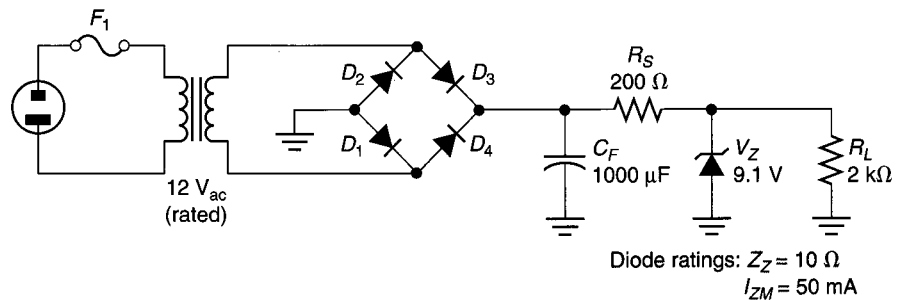

FIGURE 3.64
49. Calculate the dc output voltage and current values for the circuit shown in Figure 3.64.
50. Calculate the output ripple voltage for the circuit shown in Figure 3.64.
54. The circuit in Figure 3.64 has an output that equals 0 Vdc. The primary fuse is not blown. Discuss the possible cause(s) of the problem.